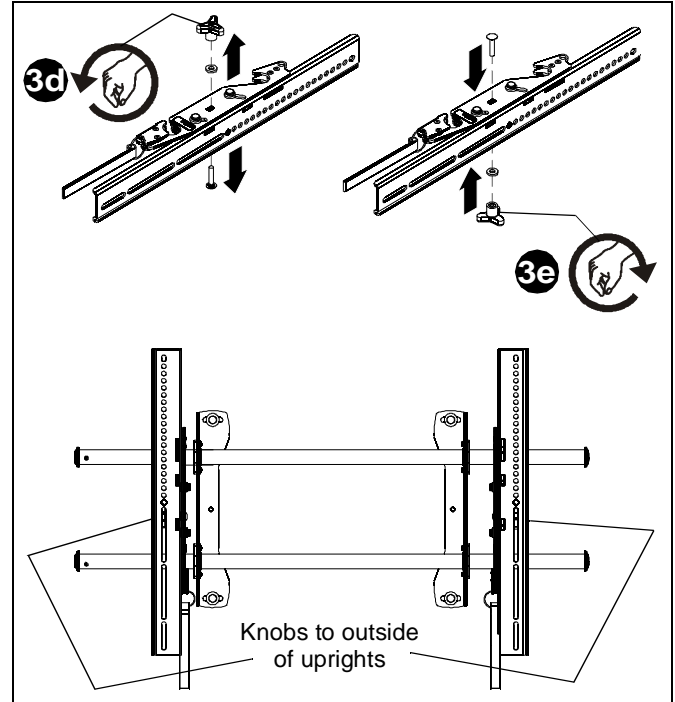

Figure 6
3. If necessary, the uprights knobs may be switched to allow the uprights to be reversed. (See Figure 6)